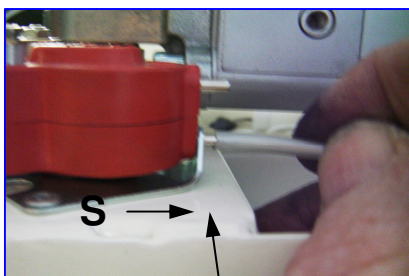

FIG.1
1. A1. Check silver pipe is connected to lower port on pressure switch see fig.1
2c Check pressure switch by pulsing air into lower port see fig.1